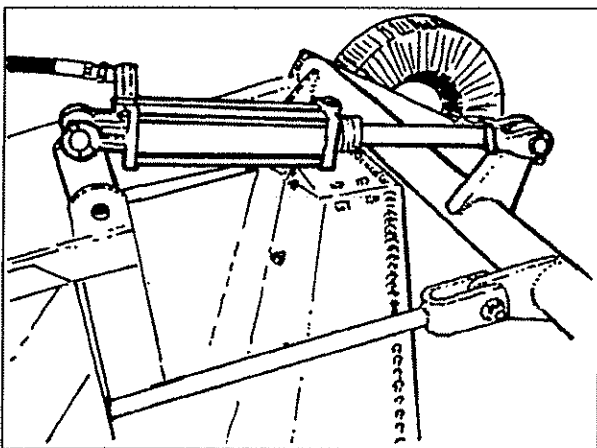

FIGURE 22
1. The lifting hydraulic cylinder attaches on one end to the long lug on the rear axle and the other end of the lifting hydraulic cylinder attaches to lug behind the center gearbox. Use hardware provided with hydraulic cylinder. Make certain the hardware is attached securely. See **Figure 22**.